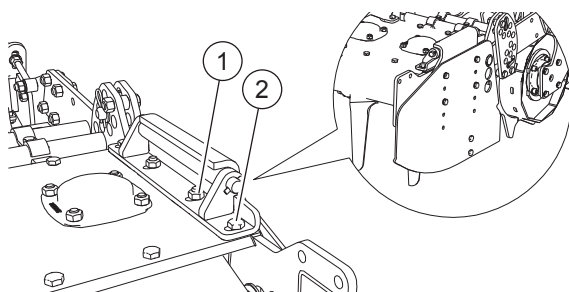

FIG. 38
- Loosen the bolts (2, “Fig. 38”).
- Loosen the nuts (1).